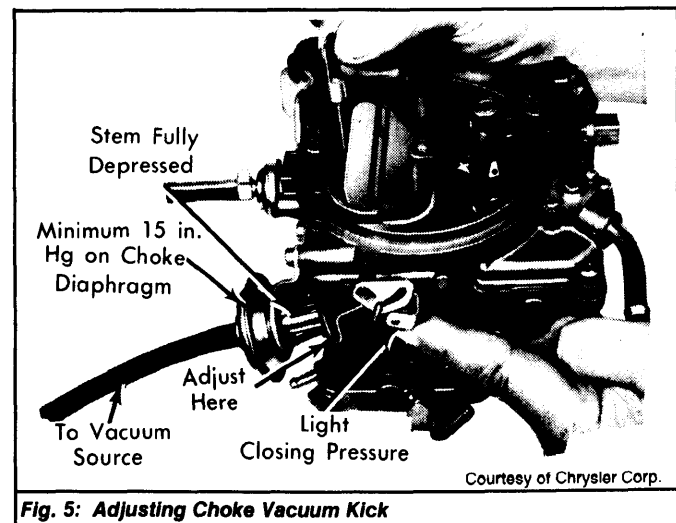

Fig. 5: Adjusting Choke Vacuum Kick
1) Open and close throttle. Release throttle to trap fast idle cam at closed throttle position. See Fig. 5.